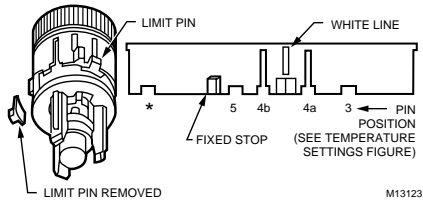

Fig. 9. Insert the pin in the slot to set the limit range (T100A,F).
2. Slide the pin into the slot that corresponds with the desired temperature limit; see Table 3 and Fig. 9 and 10.
1. Insert the pin into slot 4a for 68°F (20°C) or slot 4b for 72°F (22°C). See Fig. 9.